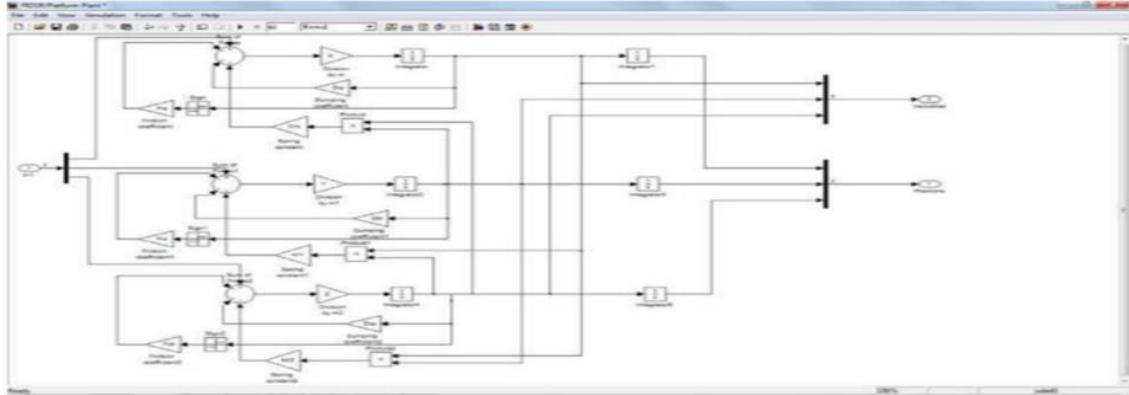

Fig. 12. The platform plant simulation
The model in fig. 12 is the graphical representation of equations (6), (7) and (8). It's obtained by using the **Simulink toolbox**.